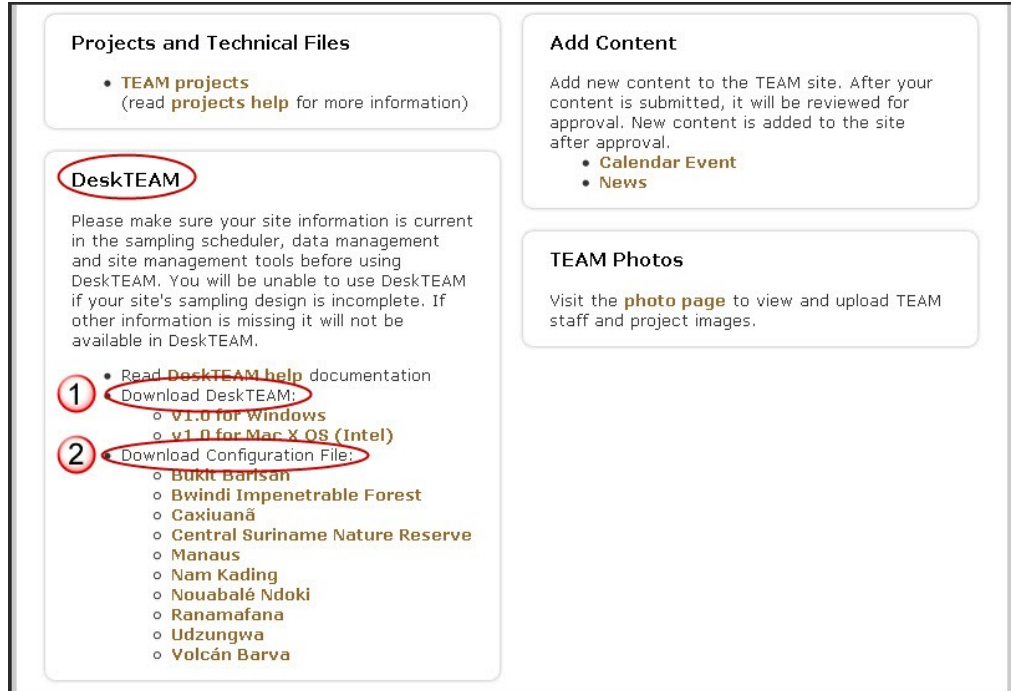

Figure 9. Screenshot showing the location of the (1) DeskTEAM and (2) configuration file downloads. Only download the configuration file for your specific site.
2. **Download DeskTEAM.** Click the myTEAM link on the top of the page and find the box labeled DeskTEAM. In this box, click the link titled v1.0 for Windows (Mac users should click the v1.0 for Max X OS (Intel) link) and save the file when prompted. Refer to Figure 9 for an image of the download location.
3. **Download configuration file.** While on the myTEAM page, click on the link for your site under the Download Configuration File heading in the DeskTEAM box. See Figure 9 below for a visual reference.